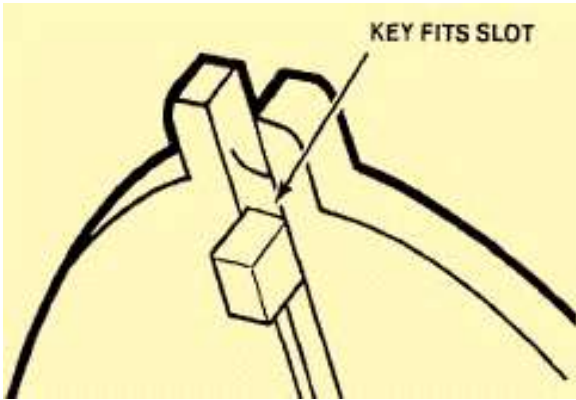

Figure 8-21. Locating key on a vise.
**Holding Workpieces in a Vise:** The vises have locating keys or tongues on the underside of their bases so they may be located correctly in relation to the T-slots on the milling machine table. The plain vise similar to the machine table vise is fastened to the milling machine table. Alignment with the milling machine table is provided by two slots at right angles to each other on the underside of the vise. These slots are fitted with removable keys that align the vise with the table T-slots either parallel to the machine arbor or perpendicular to the arbor. (Figure 8-21).